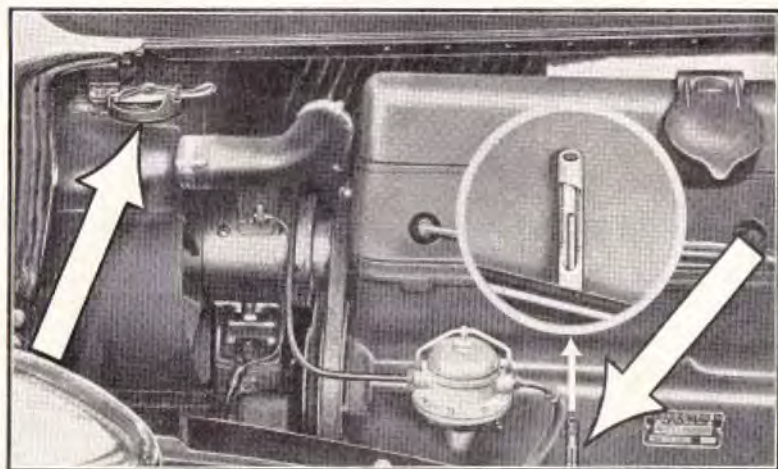

Fig. 1. Radiator Filler Cap and Oil Level Gauge.
1. The oil level in the engine sump. This is indicated by a rod which rises and falls in a tube, the movement being directly controlled by a float in the sump. The top of the rod should be between the lower and intermediate marks (FIG. 1); the top mark indicates the level at which the oil should be kept during the running in period.
2. The water level in the Radiator (FIG. 1). This should be $1\frac{1}{4}$ inches below the top of the filler neck.